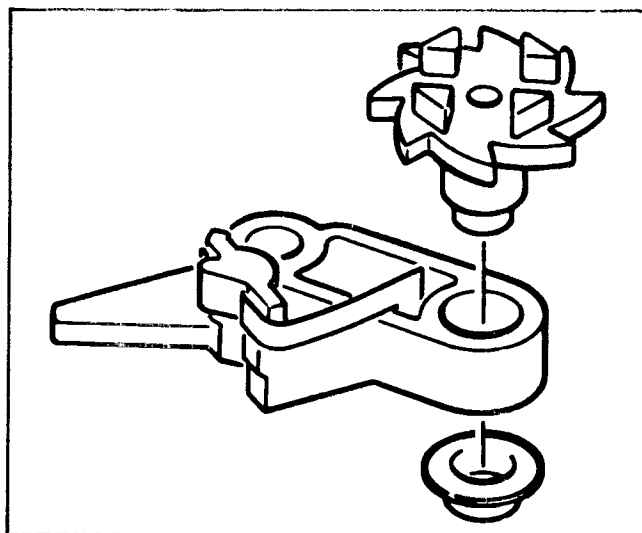

Figure 31
1. If necessary, reassemble the index wheel lever assembly as shown in Figure 31.